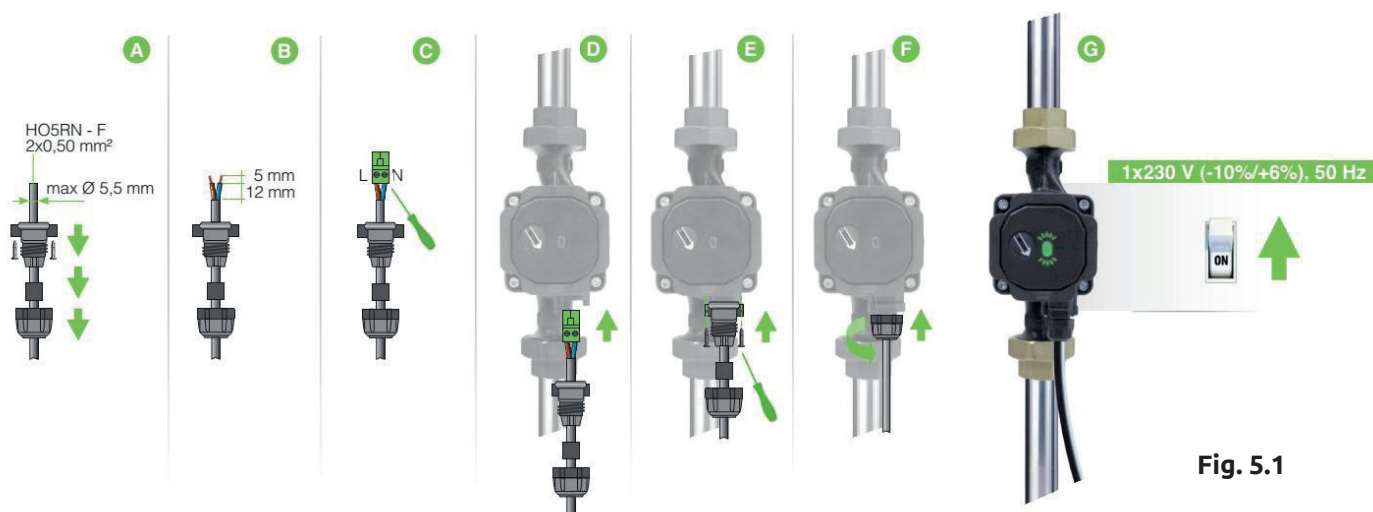

Fig. 5.1
1. Connect the power supply conductors to the terminals according to the diagram given in Fig. 5.1, from A to C. When using three-pole cables, remove the end of the grounding cable.
2. Insert the terminal board in the proper seat, connecting the blue wire (neutral) with letter N and the black/brown wire (phase) with letter L. (Fig. 5.1.D).
3. Screw the two screws (Fig. 5.1.E - The tightening torque of the screws must correspond to a maximum value of 0,3 Nm).
4. Tighten the sealing nuts to the fairlead (Fig. 5.1.F - The tightening torque must correspond to a maximum value of 2 Nm).
5. The LED light, if lighted, indicates that the power supply is present. (Fig. 5.1.G).